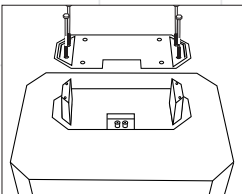

Figure 4
5. Place the metal plate that you removed from the bottom of the tower (in Step 1) on top of the tower supports. The protruded areas should face downward and rest on top of the tower supports, with the screw holes lined up, and the notch for the PT800's terminal cup should be to the rear. (Figures 4 and 4a)